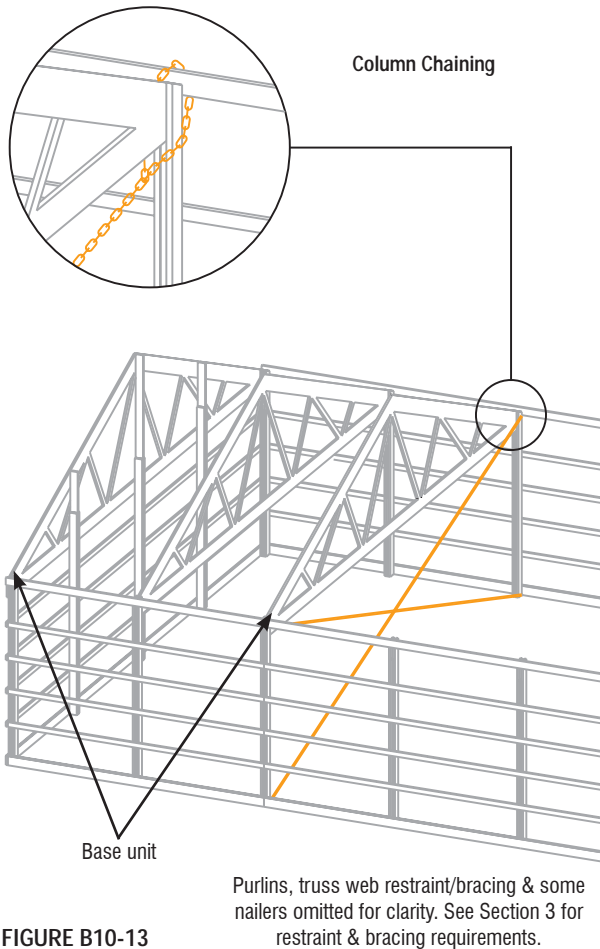

FIGURE B10-13
- b) Chains or cables (Figure B10-13, page 78) together with turnbuckles, or come-alongs of sufficient strength (min. 2,000 lbs. capacity).
- Chains or cables (Figure B10-13, page 78) together with turnbuckles, or come-alongs of sufficient strength (min. 2,000 lbs. capacity).